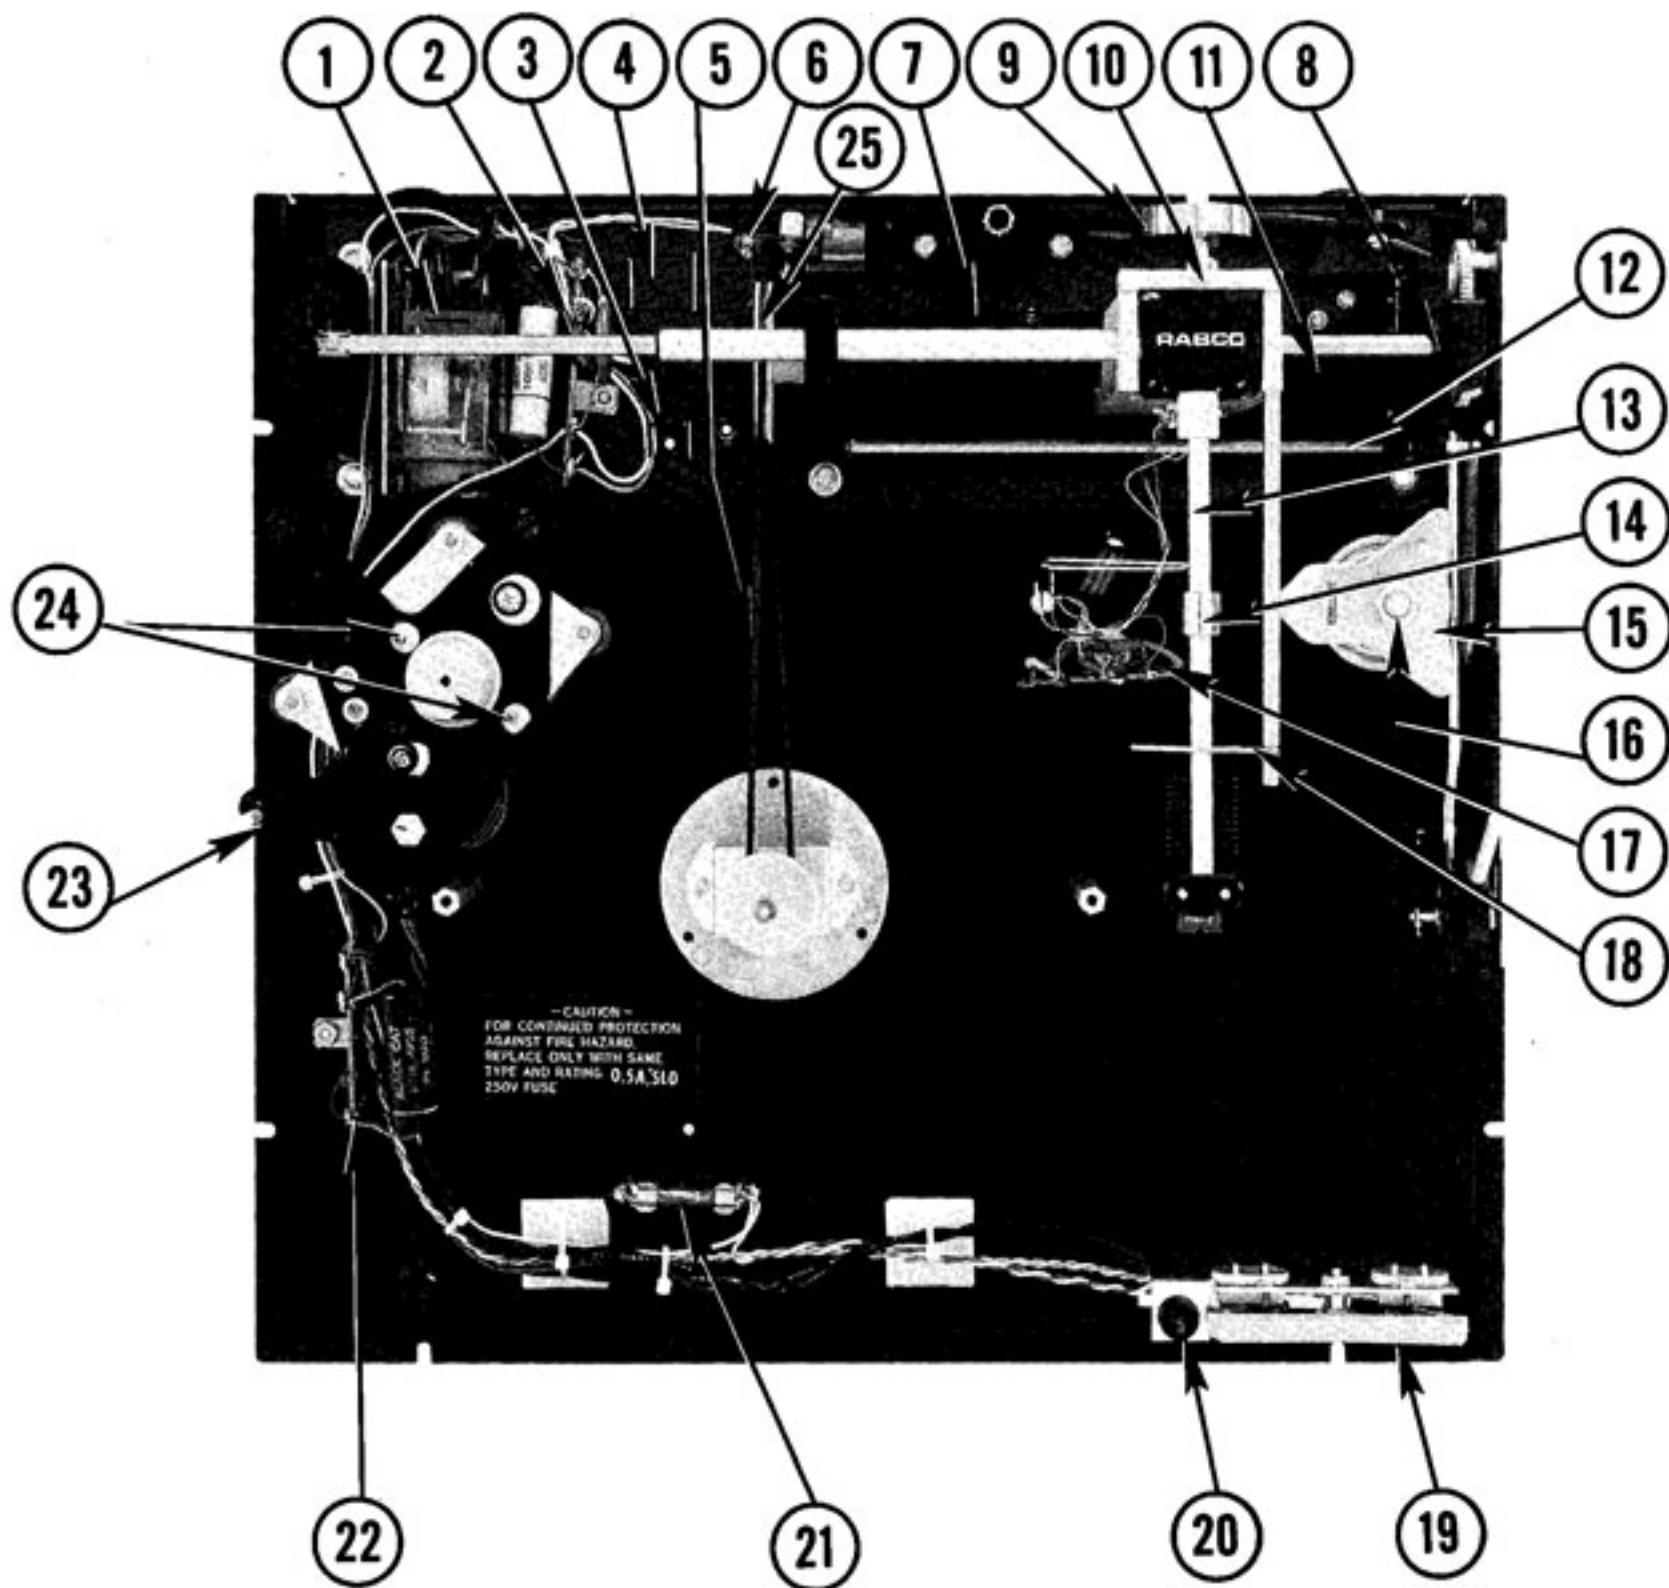

Figure 3.
(Refer to Figures 3, 10, and 11)
Figure 3 shows the ST5 after all four stages of disassembly. The callouts represent location of adjustments that will be referred to in the following paragraphs. It is recommended that you familiarize yourself with the location of these adjustments.
D. Method of Adjustment (Refer to figures 3 and 5) (Use tool No. 6)